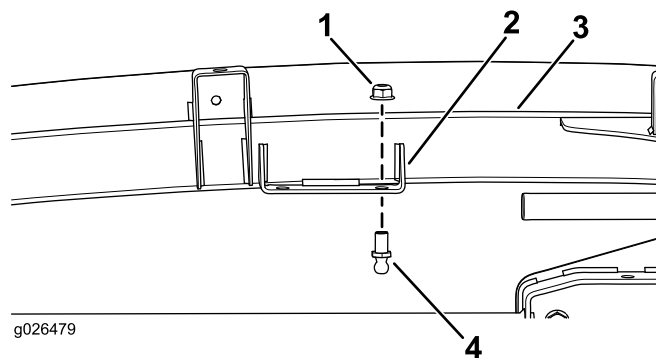

Figure 1
1. Insert the ball stud through the rear hole in the bracket on the cab frame, and install the locknut (5/16 inch) onto the ball stud (Figure 1).